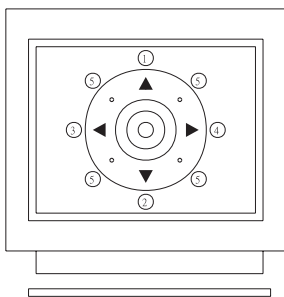

Figure 1
- ⑤ DIAGONAL
Push the joystick diagonally, the camera moves to that direction (direction ⑤ on figure 1)